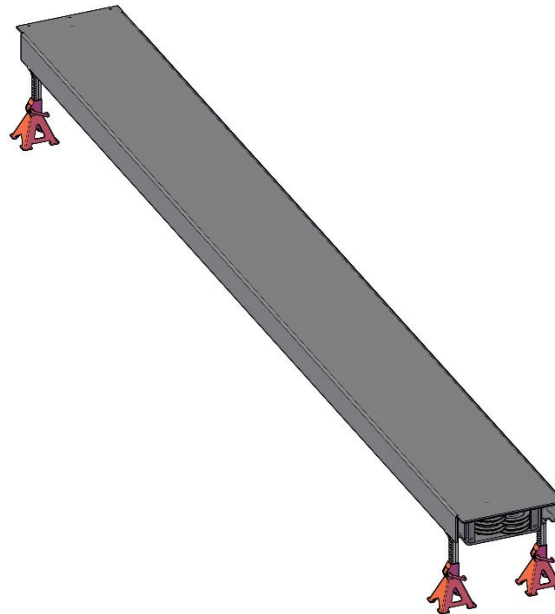

Figure 6: LS Deck Support
4. Using a floor jack or engine hoist, lift the left side runway and support with (4) jack stands **(see Figure 6)** or other means of support. Use the floor jack or engine hoist as addition support.